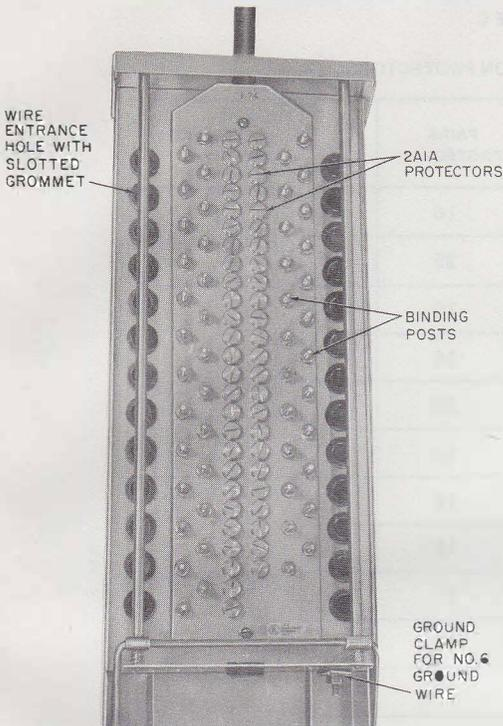

Fig. 14—NH25 Cable Terminal
3.20 The NH25 cable terminal (Fig. 14) has fifty binding posts, fifty 2A1A protector units, and the housing is equipped with a drop-type cover. It may be pole- or wall-mounted. Where the NH25 cable terminal is wall mounted on a customer's premise, it must be bonded (grounded) to an acceptable ground (Table D).